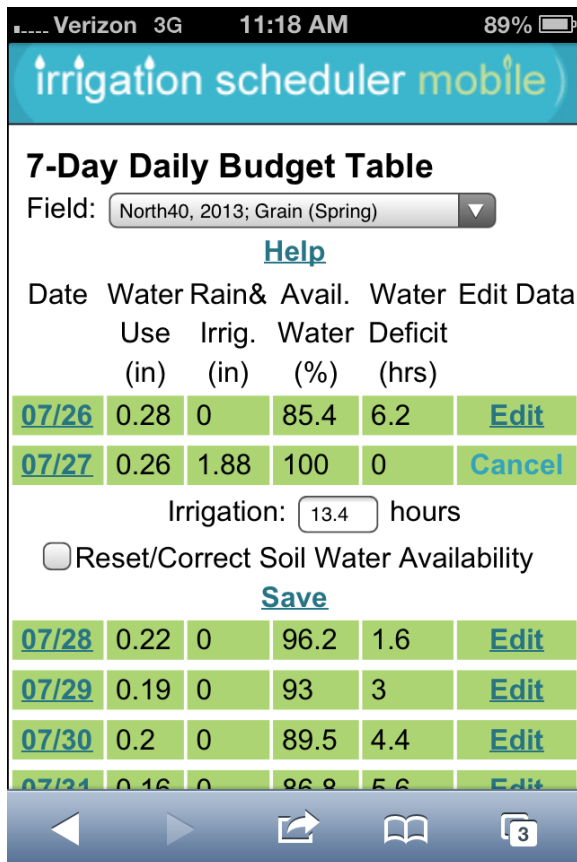

Figure 7. Edit button expands table for inputs.
**Edit Data:** Use this link at each line to add irrigation amounts or correct the model for measured soil water contents (Figure 7).
**Edit Data:** Clicking the Edit link on that day expands the screen to accept inputs for that day as shown in Figure 7. From here you can add or edit irrigation amounts, or reset or correct the soil water availability to make it better match reality based on observations or soil moisture measurements. Click Cancel closes the table up again. You must click Save for these changes to be applied.
**Reset/Correct Soil Water Availability:** Check this box to overwrite the calculated percent of available soil water with an entered number (Figure 7). You might want to do this to correct the model to make it better match observations or a soil moisture measurement. The model will use your entered value as the new value and will calculate the estimated soil water content from that point on. Unchecking this box will make model return to the calculated value.